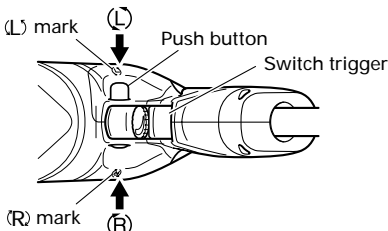

Fig. 6
6. Check the rotational direction (Fig. 6)